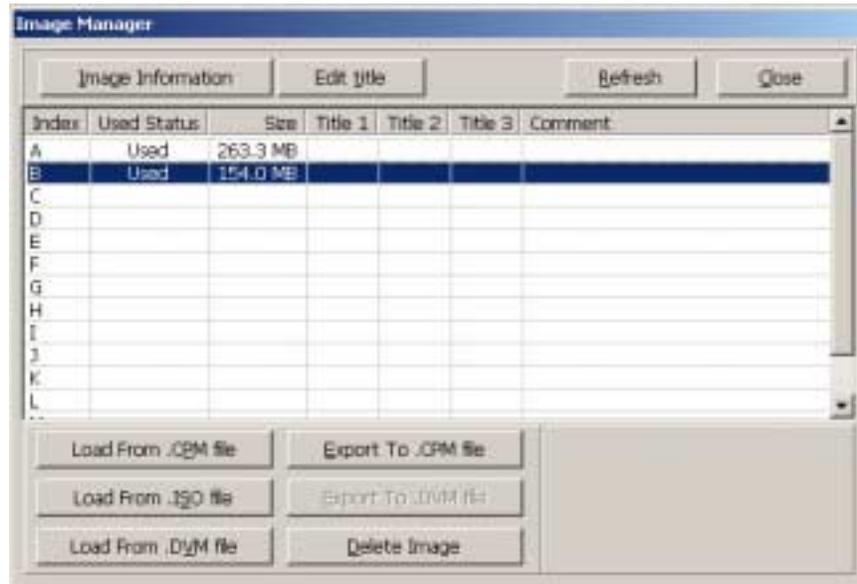
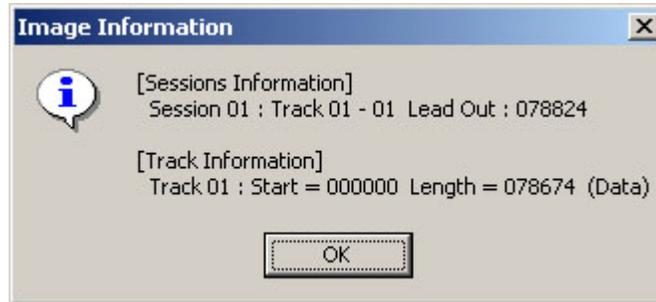

Figure 7
Figure 8
(8) You can see the newly transmitted file appear in partition B as Figure 7 shows.
(9) On Figure 7 click [Image Information] to see the file's information as Figure 8 shows.
- (10) On Figure 8 click [OK] to return to Figure 7. Then click [Edit title] to edit the title of the file. You can edit three titles at most, and decide whether to give a comment or not.